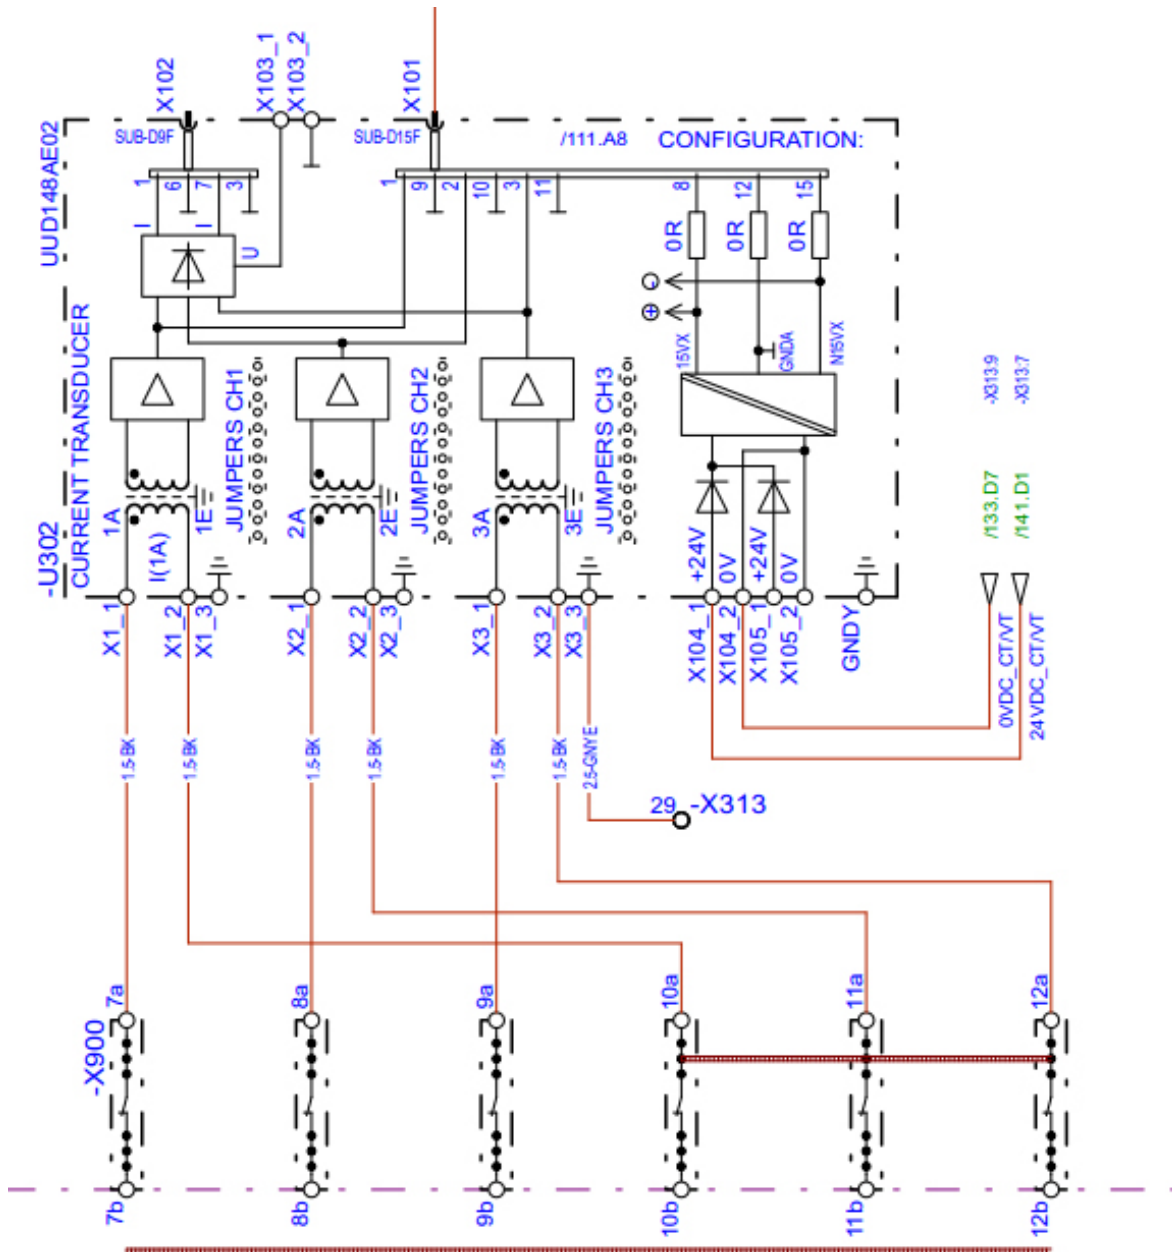

Figure 8–9 Short-circuit of current transducer
6. Disconnect all cables and detach the module to be replaced (see Fig. 8–3 for detachment procedure).